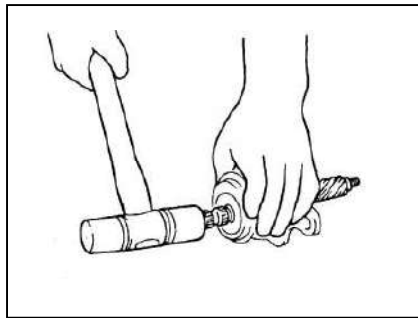

Fig.17-24
2) LOWER OIL SEAL /PINION AND VALVE ASSEMBLY REMOVAL(See fig 17-24)